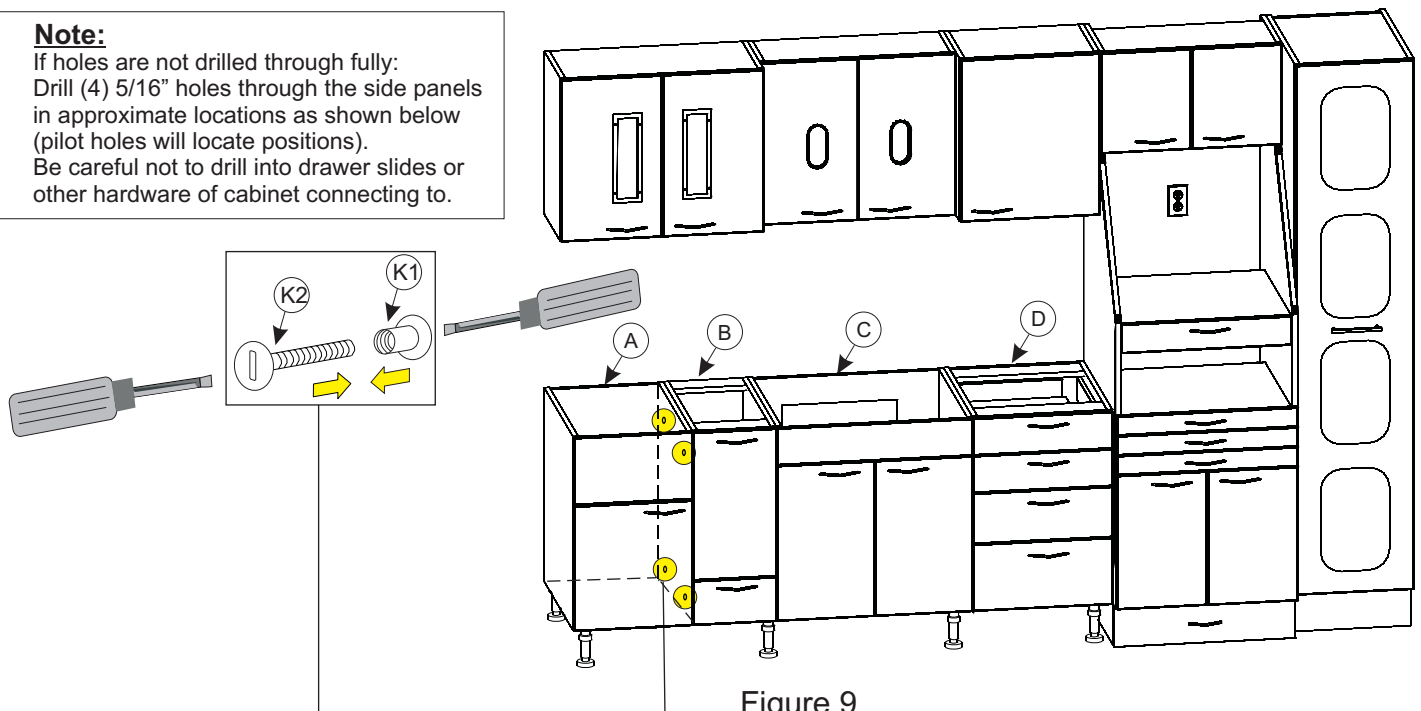

Figure 9
Secure Cabinets (A, B, C & D) together by opening doors/removing drawers and inserting (4) Connectors (K1 & K2) through the (4) holes through each side panel. Tighten Connectors with screw drivers (see Figure 9).